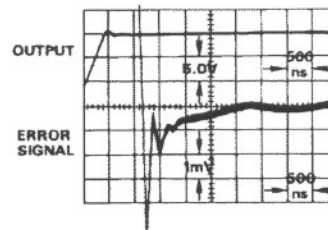

Figure 4. AD509 with 500pF Capacitive Load
**SETTLING TIME VS. CAPACITIVE LOAD.** The AD509 will drive capacitive loads of 500pF without appreciable deterioration in settling time. Larger capacitive loads can be driven by tailoring the compensation to minimize settling time. Figure 4 shows the settling time of a typical AD509 compensated for unity gain with a 15pF capacitor, with a 500pF capacitive load on the output. Note that settling time to 0.01% is still under 2.0µs.